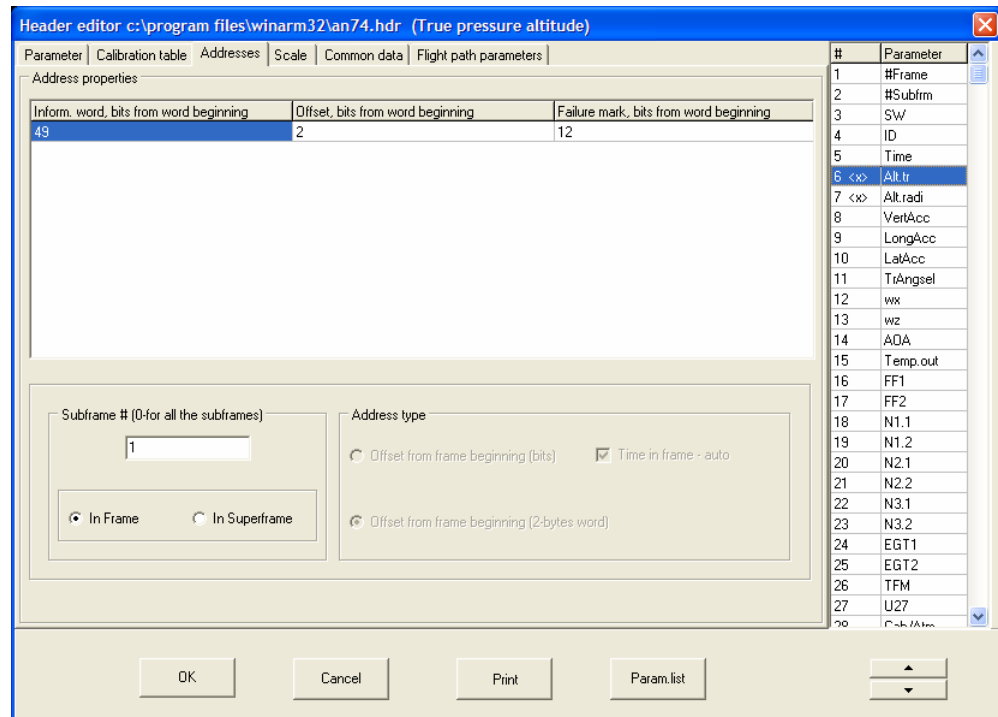
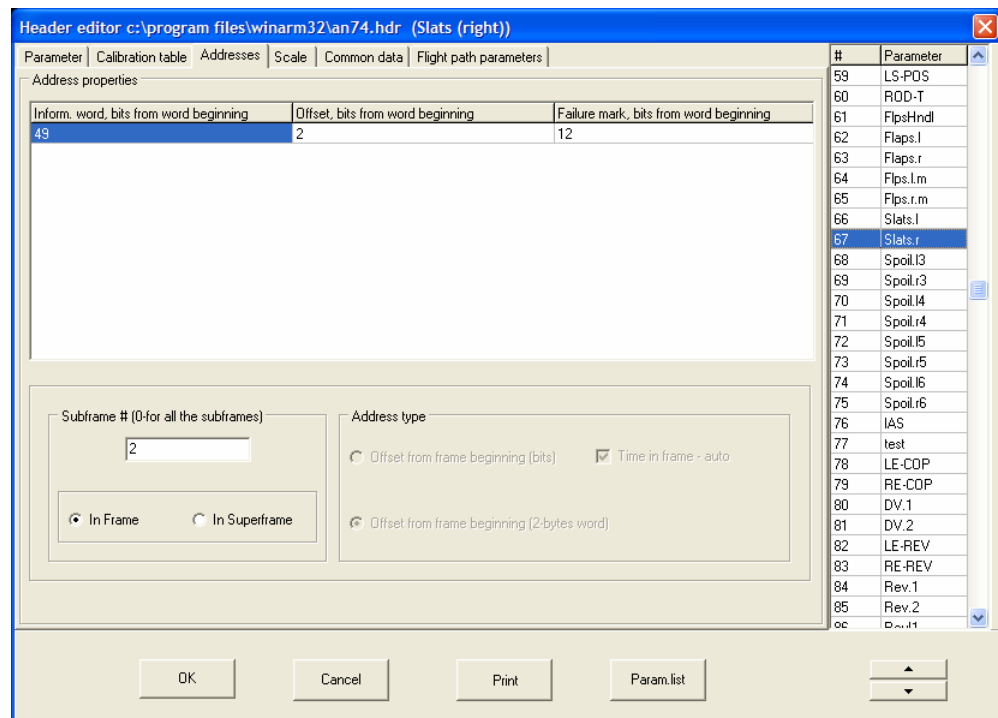

Figure 9.9
Figure 9.10
There are FDR types (for example BUR-3) that register some parameters not every subframe. The number of a subframe (**subframe #** field) where a parameter is registered must be specified in those cases. For the parameters that are registered in **every** subframe the value of this field must be **0**. Additionally, you have to specify for indexing inside frame or superframe belongs this value. Registration of the relative height and right slats position on An-74 aircraft may be an example. Both parameters are registered using the same address (49) but in different subframes (Figure 9.9 and Figure 9.10).